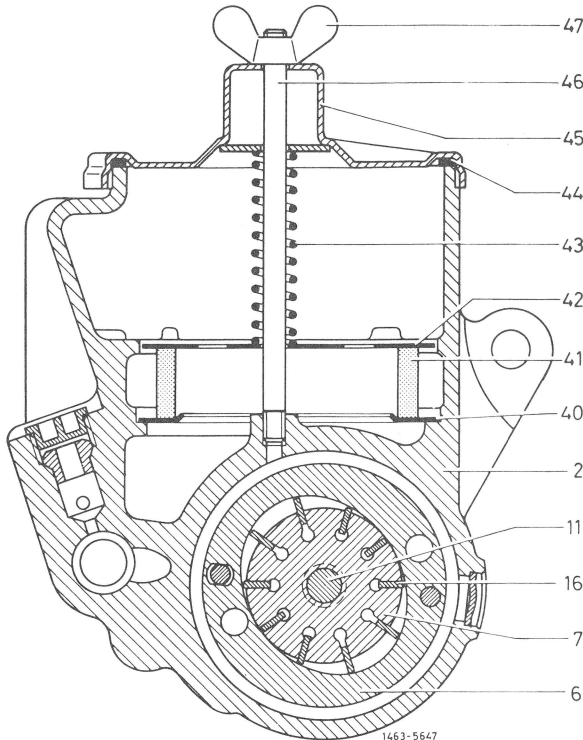

Fig. 1
1 Unscrew wing nut (47), remove closing cover (45), compression spring (43), the two damping plates (42 and 40) and filter ring (41) (Fig. 1).